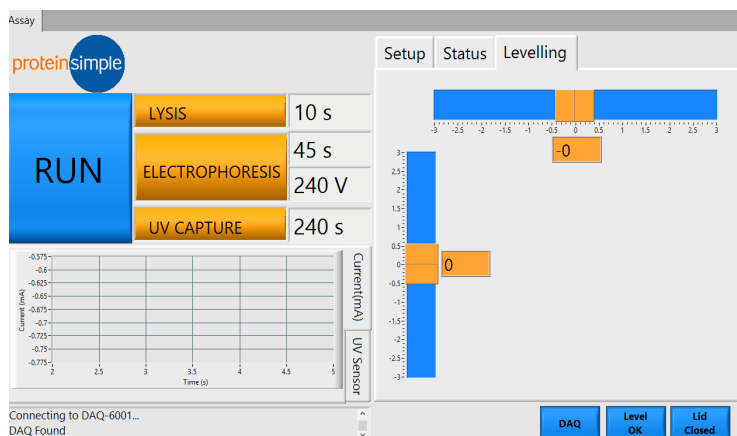

Figure 5-8: Ensure the instrument is level and that the electronic levels both read 0 ± 0.5 degrees on the Leveling tab.
- 4 Make sure the instrument is level by selecting the **Leveling** tab on the touchscreen interface. If the instrument is not completely leveled, adjust all four instrument feet until both electronic levels read a value of 0 ± 0.5 degrees. It is easiest to adjust the level one axis at a time left to right first, then back to front (Figure 5-8).